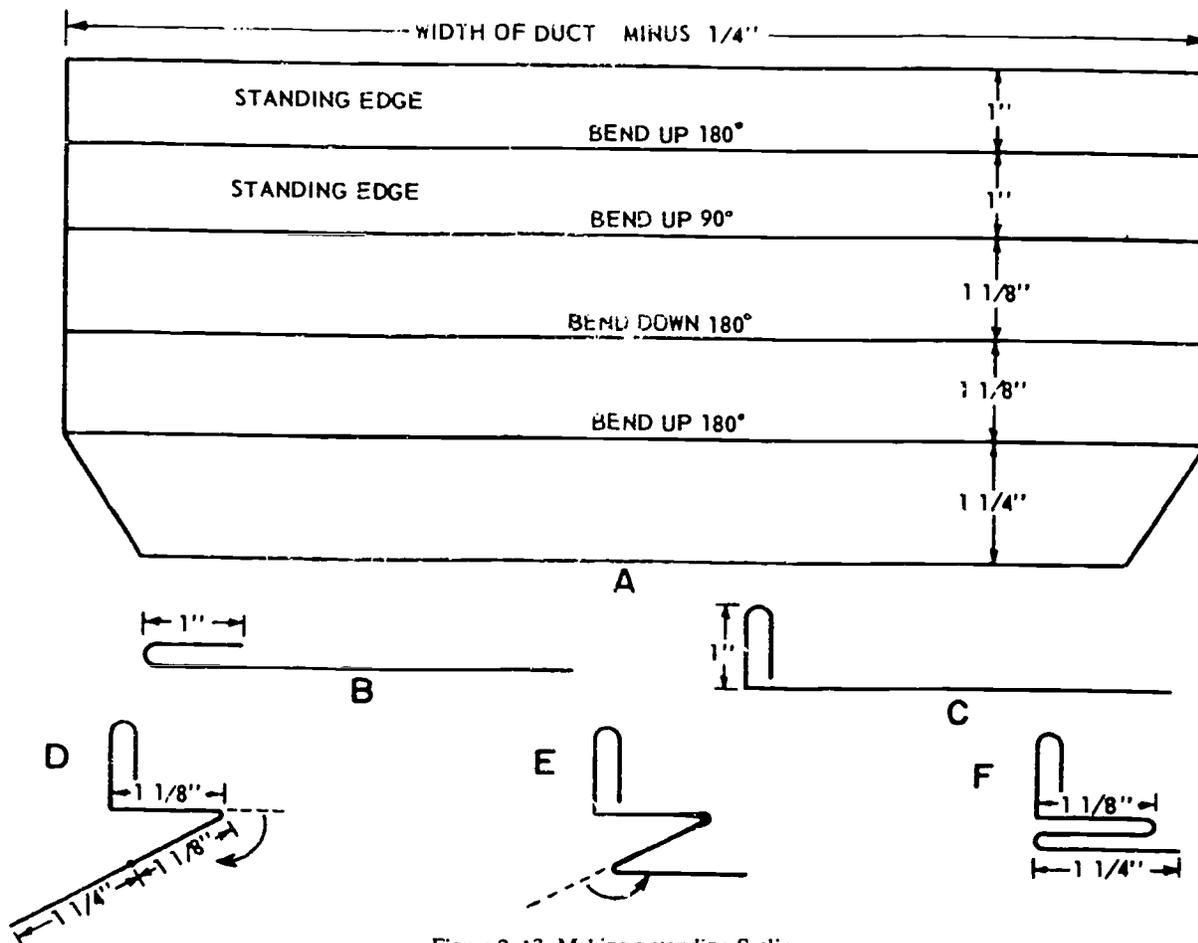

Figure 2-13. Making a standing S-slip.
Fabricating a flat S-slip is not illustrated here, but it is bent (formed) as indicated in D, E, and I of figure 2-13. To make a flat S-slip, the standing edges are omitted from the pattern and steps B and C are not performed. The following paragraphs will clarify this explanation.
Fabricating a standing S-slip is not difficult and is usually done with a cornice brake. The first step is to determine the dimensions and lay out the pattern. The pattern should look like step A in figure 2-13, if you are making standing S-slips with 1 1/8 inches pockets and a 1 inch standing edge. The length of the standing S-slip should be approximately 1/4 inch less than the width of the duct, to give clearance for the corner lock seams. Notice how the 1/4 inch portion of the pattern is cut at a 45° angle to make installation easier. For training
purpose: , we have included the braking instructions on the pattern, and in steps B through F of figure 2-13, the directions of the bends are indicated.
In step B of figure 2-13, the standing edge is bent 180° at the 1 inch line. Next, in step C, the metal is bent up 90° at the second 1 inch line. In step D, the metal is turned over in the cornice brake, and then bent approximately 150° at the third line between the two 1 inch measurements. In step E, the metal is again turned over in the cornice brake and bent approximately 150° at the fourth line between the 1 - and 1¼-inch measurements. In the final step (F), the two 150° bends are flattened with the cornice brake until they are each 180°.